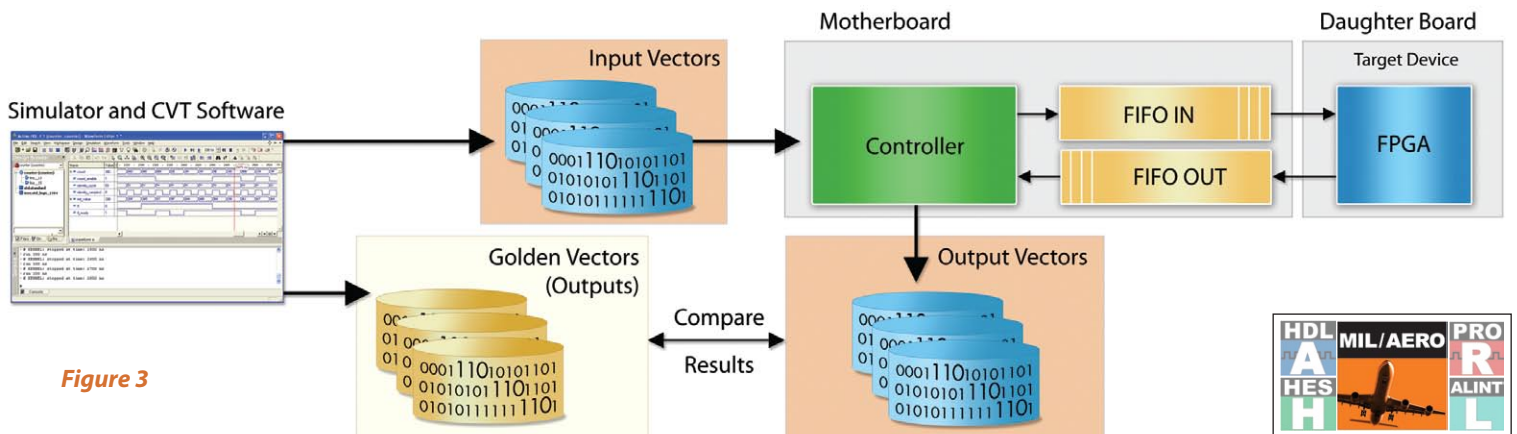

Figure 3
The In-Hardware testing starts with the Verification Tool (VT) software writing the input vectors to FIFO IN on the PCI mother board, shown in Figure 3. Next, VT drives the input vectors to the target device on the daughter board, which generates responses that are stored in FIFO OUT on the mother board. The VT software saves these outputs in the waveform format and records for comparison with the waveform outputs from HDL simulation. The design functionality is considered proven if the output waveforms of In-Hardware testing match the waveforms generated during the HDL simulation.